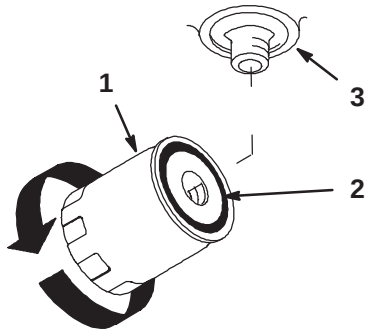

Figure 47
4. Apply a thin coat hydro fluid to the rubber gasket on the replacement filter (Fig. 47).
7. When fluid overflows filter turn the oil filter clockwise until the rubber gasket contacts the filter adapter, then tighten the filter an additional 1/2 turn (Fig. 47).